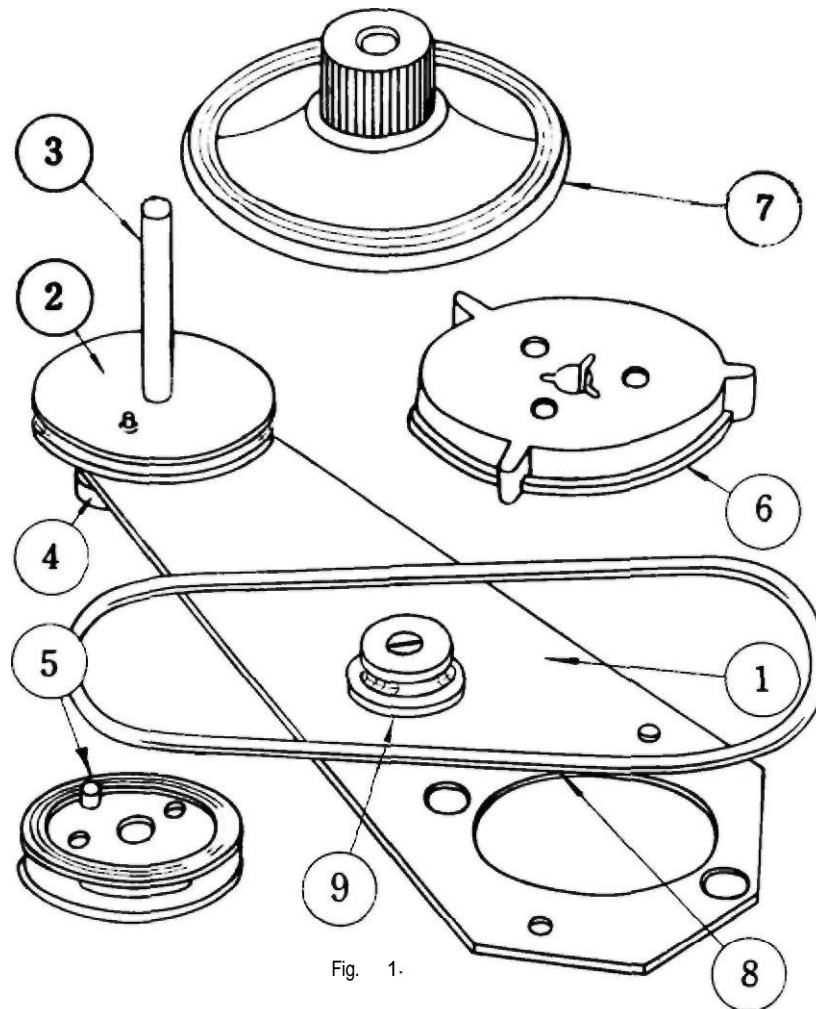
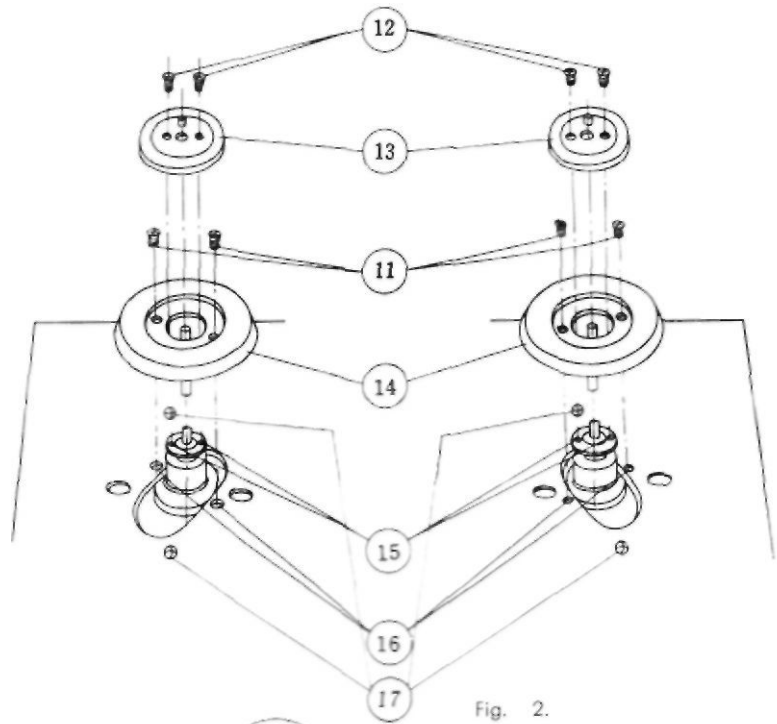

Fig. 1.
Fig. 2.
## 1. COMPONENT PARTS : (Refer to Fig. 1.)
**2. Preparation:** (Refer to Fig. 2.)
Set the Reel Adapter Arm in Holes (17) shown in Fig.2 using Motor set screws (17). By using reel table set screws (12) previously removed in Fig. 2, 7" reel table with groove for Belt (5) mentioned in Fig. 1 of "Accessories" shall be put in holes (15) of Fig. 2 and be tightened.